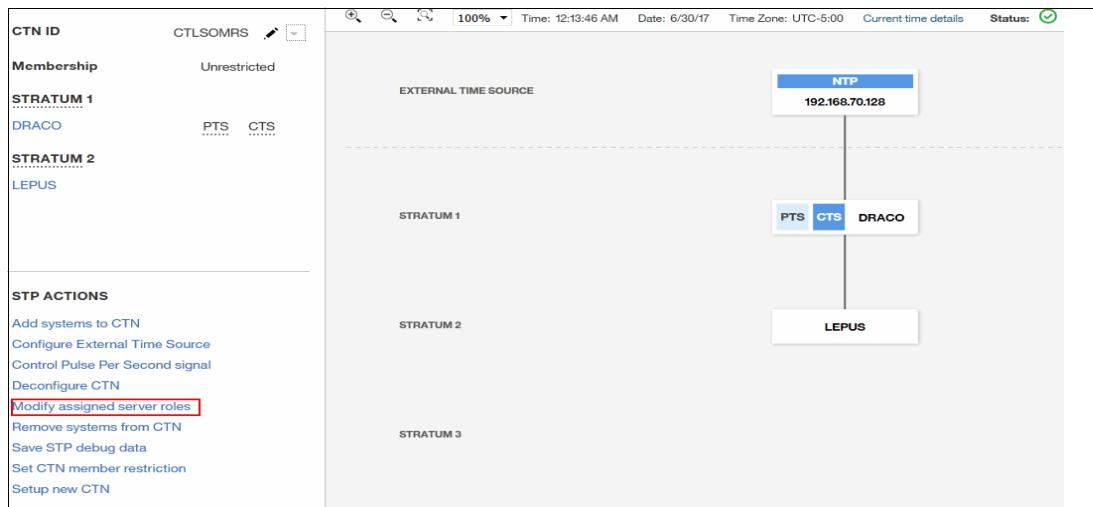

Figure 8-60 Modify server roles
1. Open the **Manage System Time** task from the HMC that can operate CTN changes to modify the STP roles. Select **Modify assigned server roles** from the STP ACTIONS list (Figure 8-60).